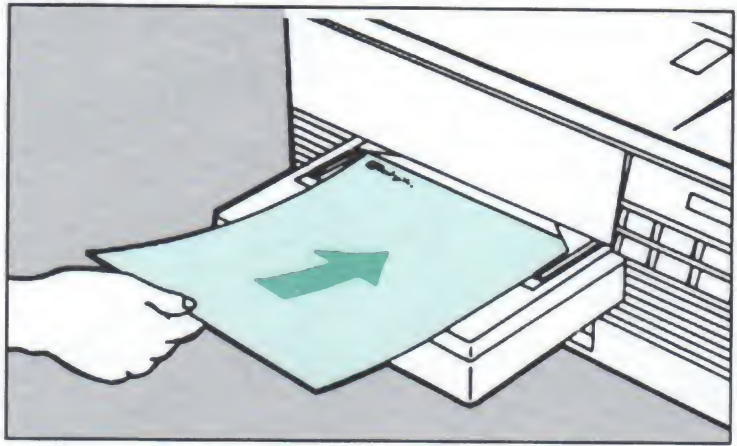

Figure 5-5. Manually Feeding Paper
4. Slide a sheet of paper into the top of the paper tray between the manual feed guides until it stops (Figure 5-5). *For letterhead stationery, the letterhead edge should be inserted first, face up.*
stops (Figure 5-5). The printer automatically picks up the sheet and prints.